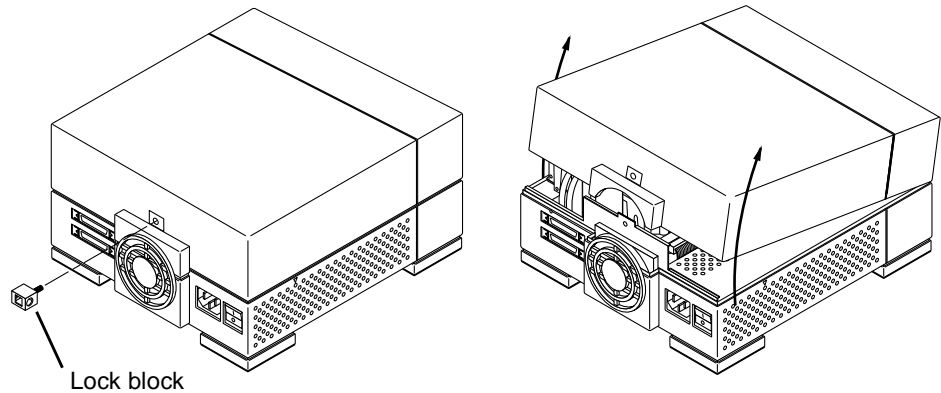

Figure 3-1 Removing the Lock Block and Lifting the Cover Off
2. Remove the Phillips screw in the lock block. See Figure 3-1.
See Figure 3-1 on page 3-2.